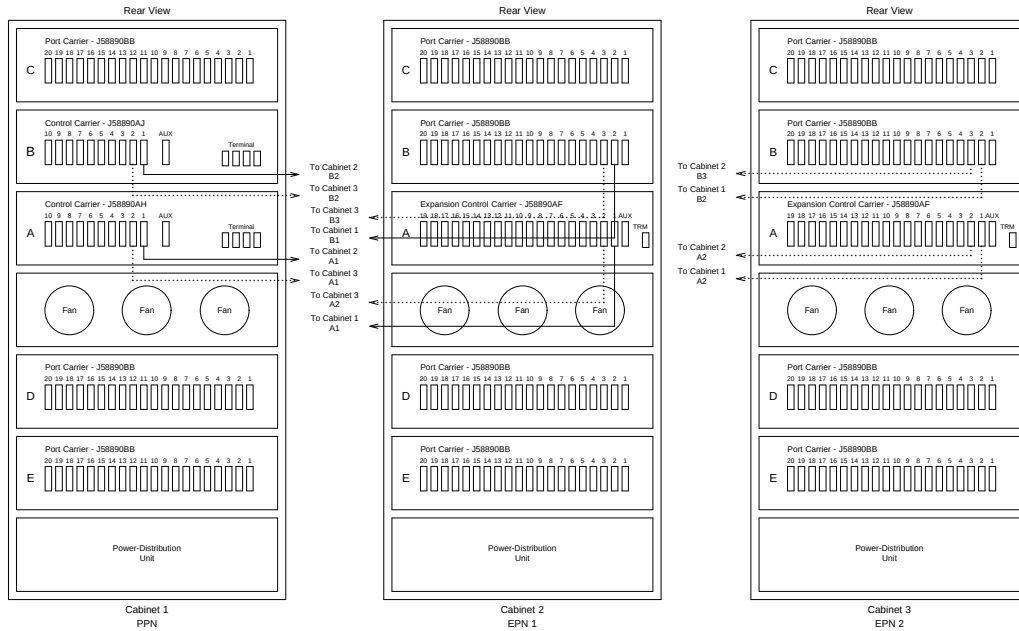
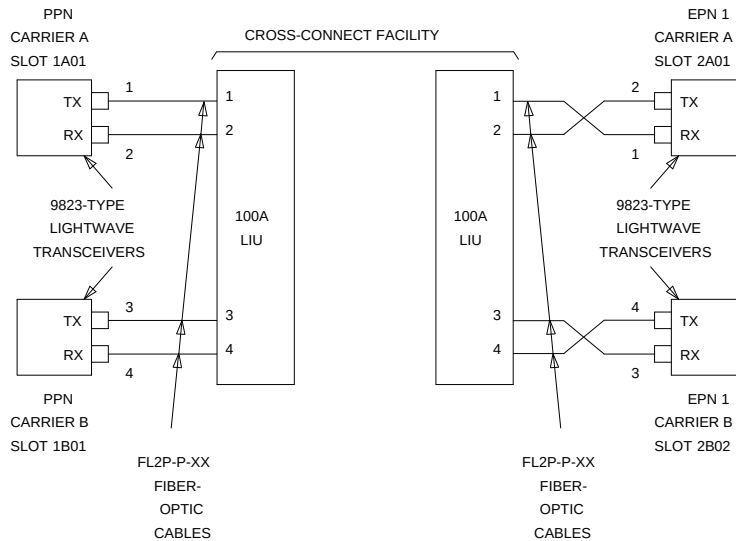
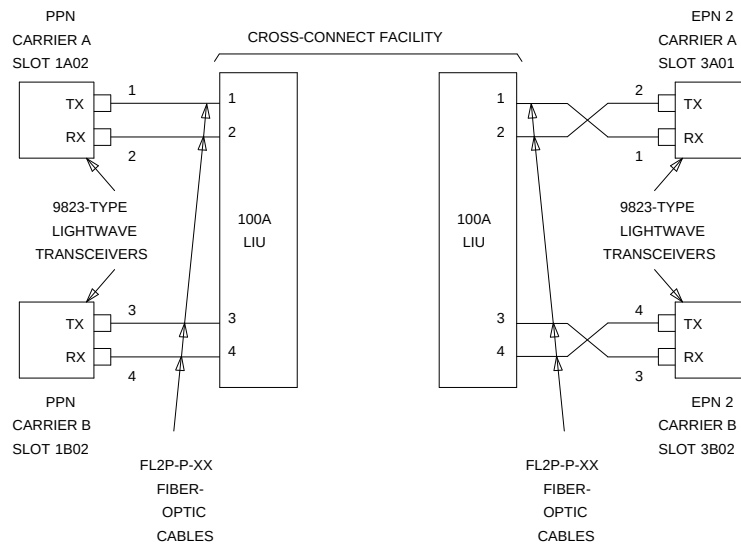
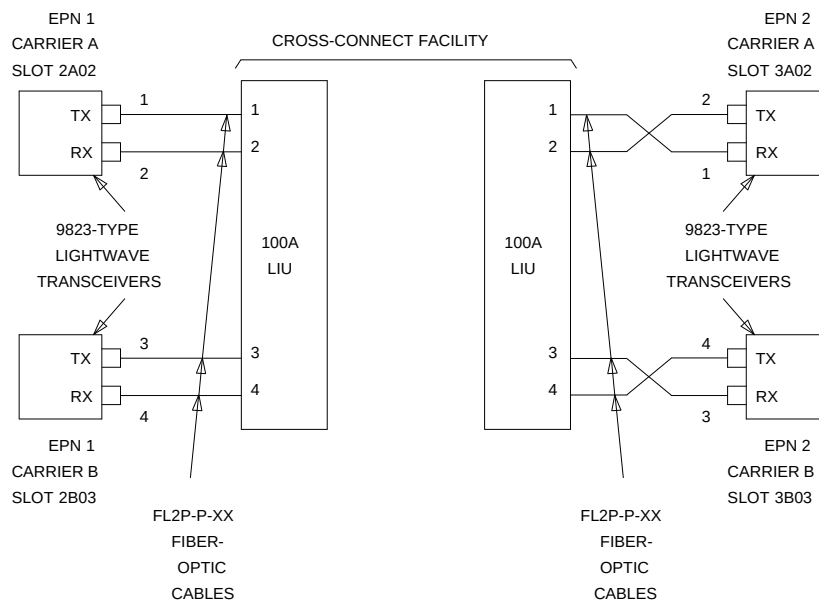

Figure 7-46. Critical-Reliability DEFINITY ECS Release 5 with Two or Three Port Networks
Figure 7-47. Fiber-Optic Connections PPN to EPN1
Figure 7-48. Fiber-Optic Connections PPN to EPN2
Figure 7-49. Fiber-Optic Connections EPN1 to EPN2
1. Behind control carrier A of PPN cabinet 1 (see Figure 7-46 on page 7-100, Figure 7-47, Figure 7-48, and Figure 7-49):